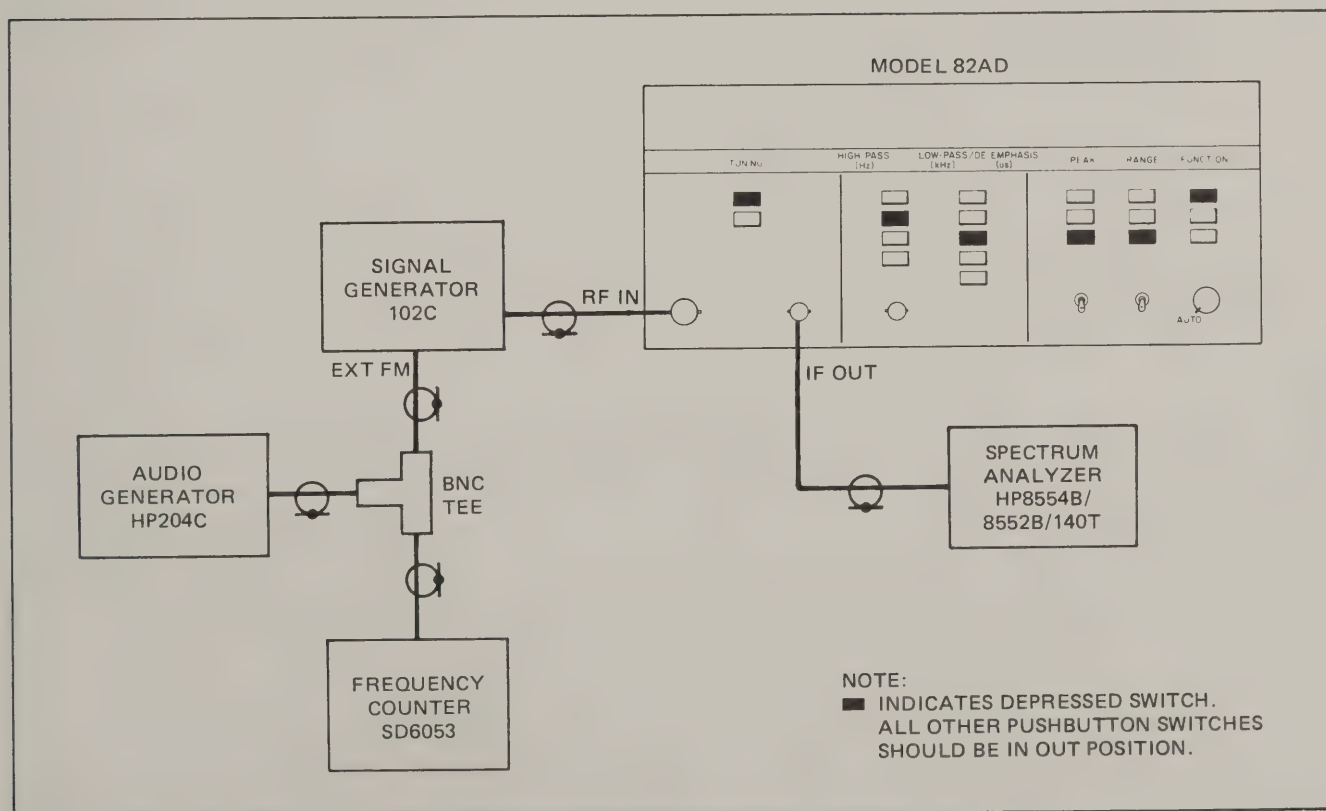

Figure 4-7 FM Circuit Adjustment Test Setup
a. Connect the equipment as shown in Figure 4-7, except do not connect the audio generator output to the signal generator at this time. Depress the indicated Model 82AD switches.